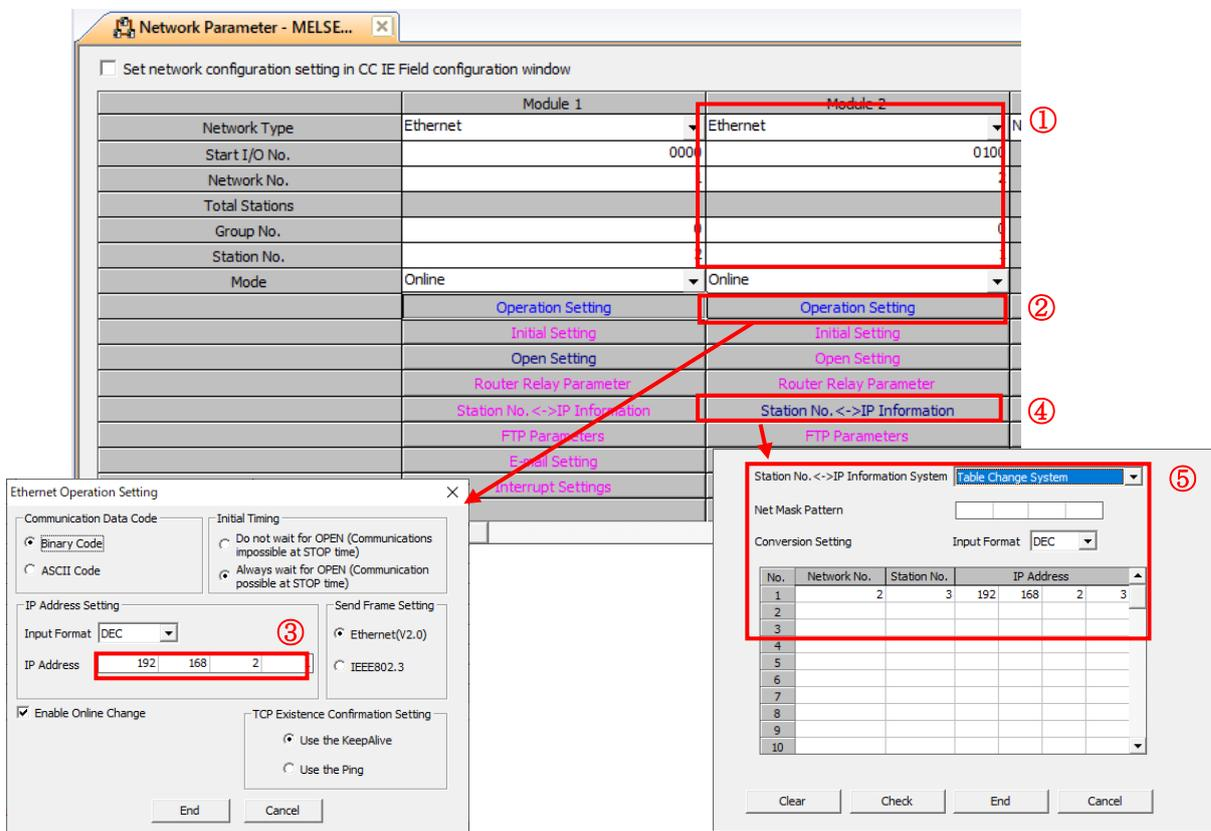

Figure 3-4 Extended Ethernet unit 2 parameter setting
① to ⑤ in Figure 3-4 show the setting steps of Expansion Ethernet Unit 2. The procedure for displaying the setting screen is the same as step ① of 3.1.1.2.3.1.1.2
- ① Select "Network type: Ethernet" in Unit 2 settings, and enter the network number and station number.
- ② Opens the Operation Setting.
- ③ Enter the IP address.
- ④ Open the Station No. <->IP Information.
- ⑤ Select " Station No. <->IP Information System: Table Change System" and enter the Network No. and Station No. and IP address of the extended Ethernet unit of the subsidiary PLC.